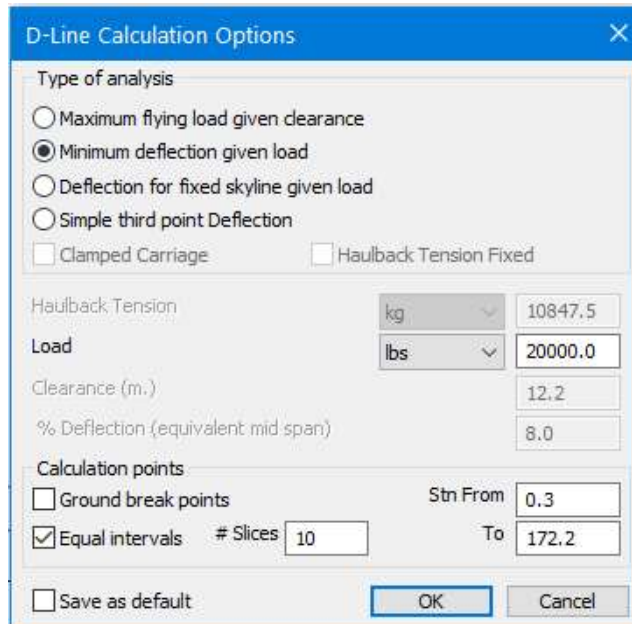

Figure 4-2: The *D-Line Calculation Options* dialogue box
4. Press the *Calculation* button and the *D-Line Calculation Options* dialogue box will appear as shown in Figure 4-2: